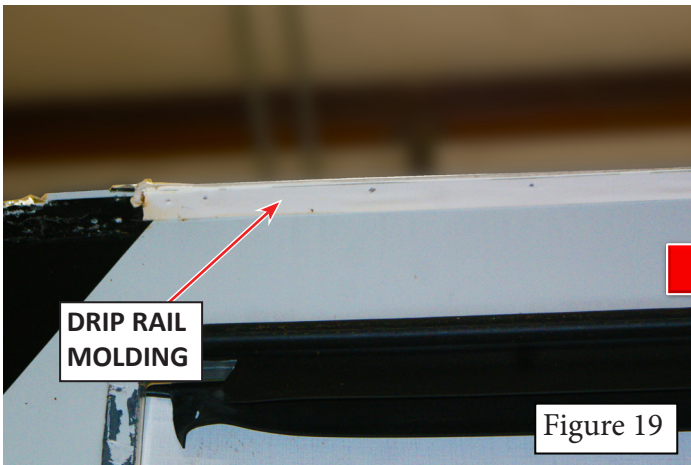

Figure 19
20. Remove the screws holding the slide-out floor to the outside slide-out wall (Figure 19). **NOTE that these screws may be hidden under seam tape** (Eterna-Bond tape - P/N 102405 - replacement tape supplied).
1. Use a screw gun with a #2 square drive bit and prying tools to remove the fasteners and peel off the rubber drip rail trim along the roof line to the back of the kitchen slide-out (Figure 19).